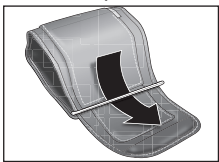
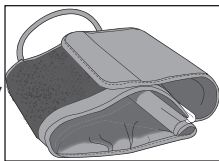

Fig. 1
Fig. 2
2. Keeping the words on the inside of the cuff, thread the end of the cuff through the metal bar, Fig 1. The end of the cuff should be able to fold over onto itself for securing via the hook and loop closure, Fig 2.
3. Rest your elbow on a solid surface with your palm facing upward. Elevate your arm so that the cuff is at the same level as your heart, Fig 1. Relax your left hand.